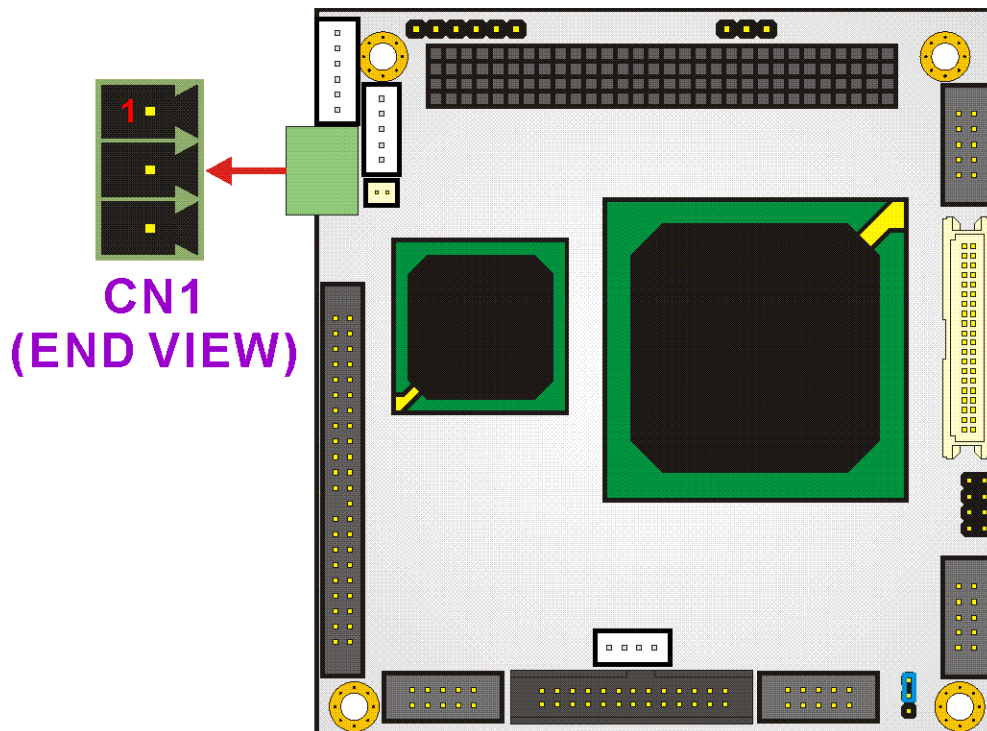

Figure 3-3: 12V / 5V Power Connector Location
- CN Location: See **Figure 3-3**